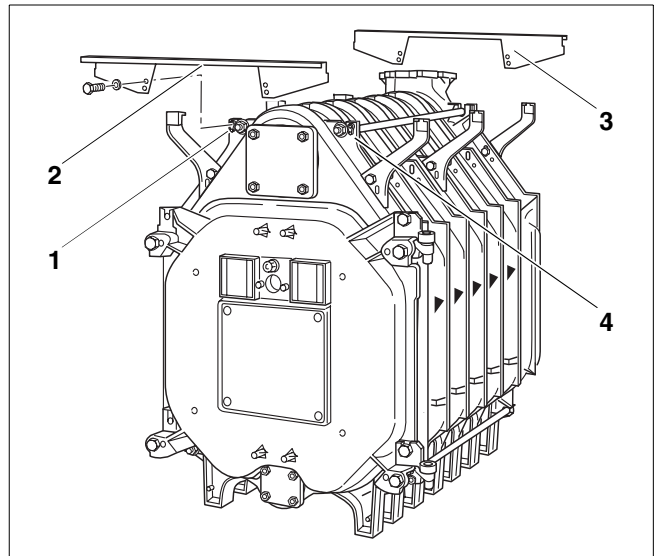

Fig. 36 Assembly – Fitting cross-members
- Locate the upper front cross-member (Fig. 36, **ref. 2**) on the cast lugs (Fig. 36, **ref. 1 and 4**) and screw it on finger tight with hex-head bolts (M8 x 16 mm). The horizontal limb of the cross-member should point forwards.
- Locate the upper rear cross-member (Fig. 36, **ref. 3**) on the cast lugs and screw it on finger tight with hex-head bolts (M8 x 16 mm). The horizontal limb of the cross-member should point to the rear.